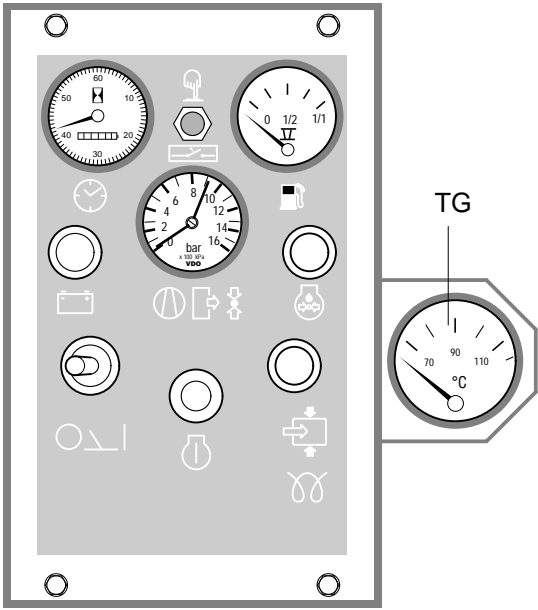

Fig. 3.7 Air outlet temperature gauge (TG)
- 1 That regulating valve (RV) is correctly adjusted, i.e. starts decreasing the engine speed when reaching the preset working pressure in the receiver.
- 2 The air outlet temperature (TG- Fig. 3.7) of the compressor element.